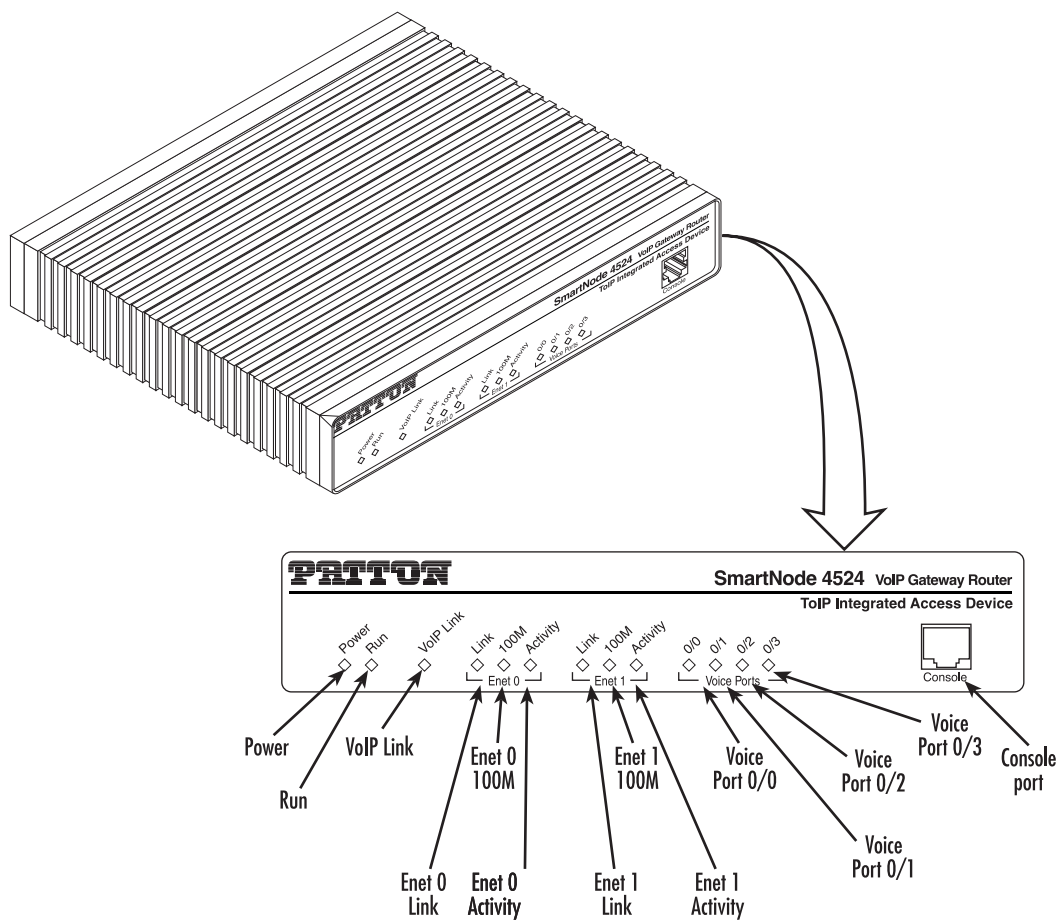

Figure 16. Router front panel LEDs and Console port locations (SmartNode 4524 shown)
5. Verify that the green *Power* LED is lit (see figure 16).